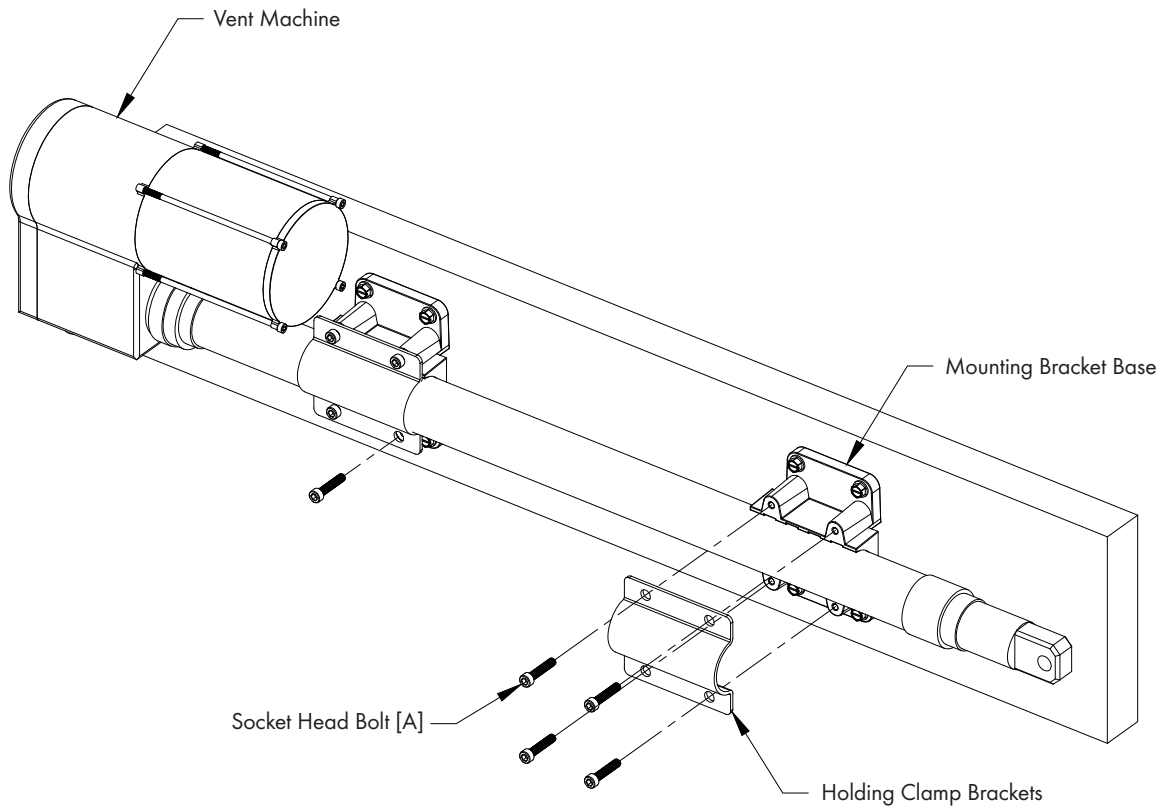

Figure 2
Place the Vent Machine in the Mounting Bracket Bases and secure in place using (2) Holding Clamp Brackets and (8) Socket Head Bolts [A]. See Figure 2.